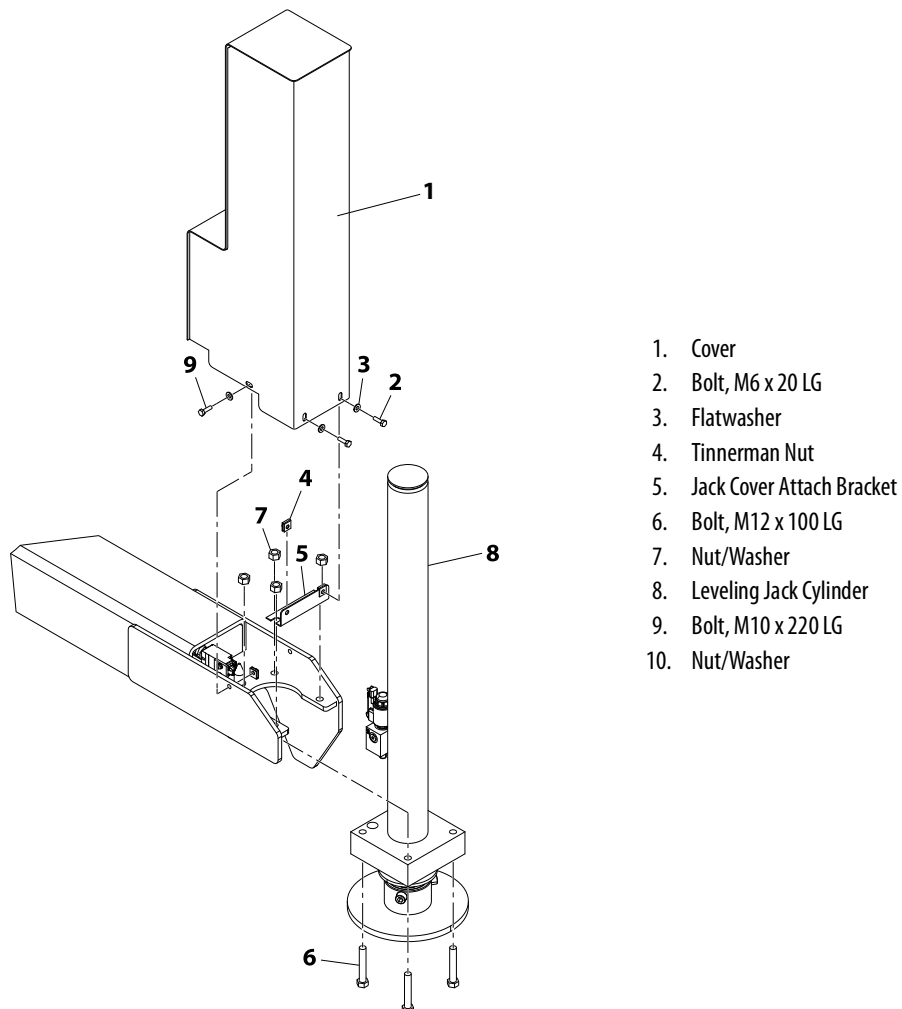

Figure 3-32. Leveling Jack Cylinder Removal
2. Remove covers from leveling jack cylinders (refer to Figure 3-32., Leveling Jack Cylinder Removal).
3. Disconnect, cap and label hydraulic lines (2) connected to leveling jack cylinders. Disconnect and label all electrical wiring attached to cylinder and switches. Remove hoses and wiring from the leveling jack tube assembly.
4. Remove the eight bolts (3), washers (4), nuts (5) doubler plate (6) and shim (7) through the frame.